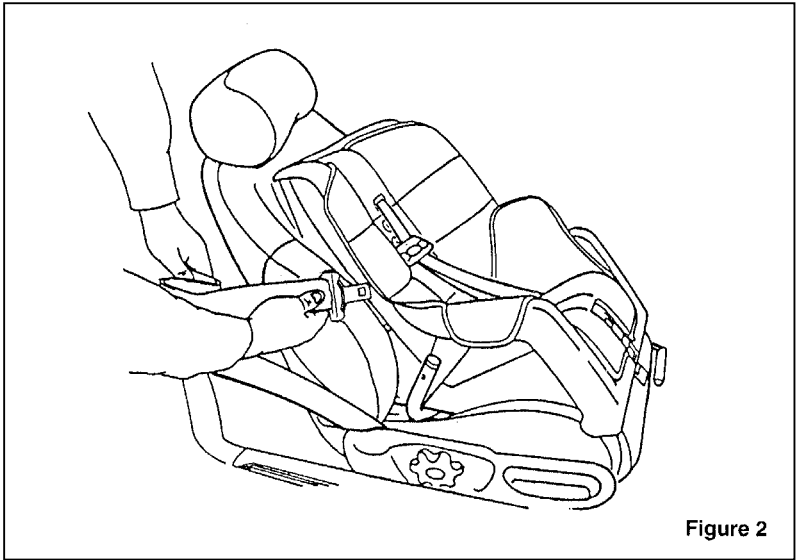

Figure 2
3. While holding the shoulder and lap belt portions together, route the tongue through the child seat according to the child seat manufacturer's instructions. See Figure 2. Be sure the belt webbing is not twisted, and insert the tongue into the buckle. See Figure 3.